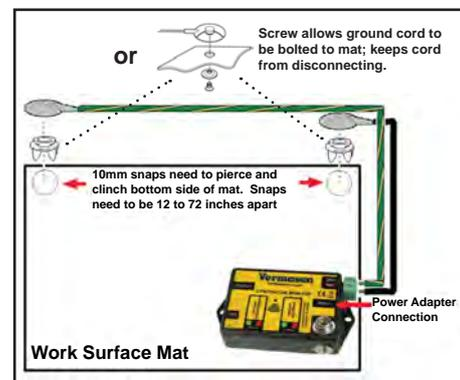

Figure 3. Installation method #1 of the Multi-Mount Continuous Monitor
- II. The Multi-Mount Continuous Monitor may be mounted to a convenient location using the included mounting screws or Velcro® set. See Figure 3 for installation set-up.
- III. Install Screws and Washers or Push and Clinch snaps 12 to 72 inches apart from each other on the work surface mat. Make sure that they pierce and clinch the bottom side of the mat. (See Figure 3).
\* The working surface resistance is measured between the two cords installed to the mat working surface (See Figure 3).